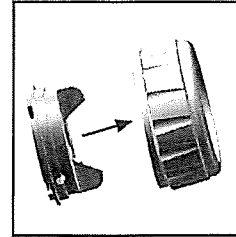

Fig. 38
3. Assemble air cap and air cap ring together – **less spray tip and plastic tip guard**. (See fig 38)